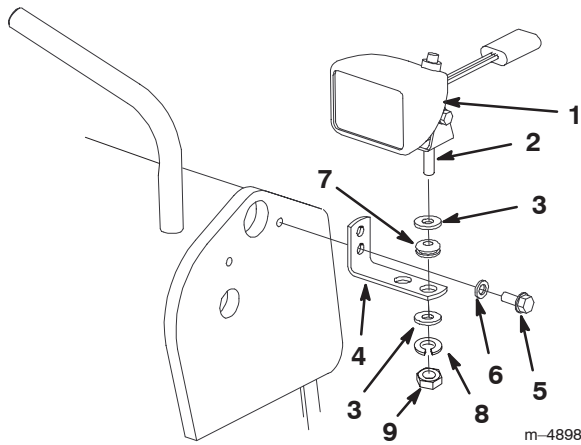

Figure 4
1. Install the brackets using 2 of the self-tapping bolts and curved washers (the cupped side of the washers should face the traction unit) (Fig. 4).
- Place a flat washer on the carriage bolt on each light (Fig. 4).
- Insert the rubber grommets into the outer holes in the brackets (Fig. 4)
- Insert the carriage bolts on each light through the rubber grommets in the brackets (Fig. 4).
- Secure each light with a flat washer and the lockwasher and nut you removed in step 2 (Fig. 4).